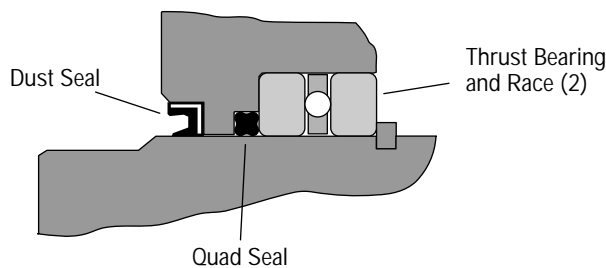

Figure 4
- 11 Lubricate and install the dust seal (see Figure 4 for correct seal orientation).